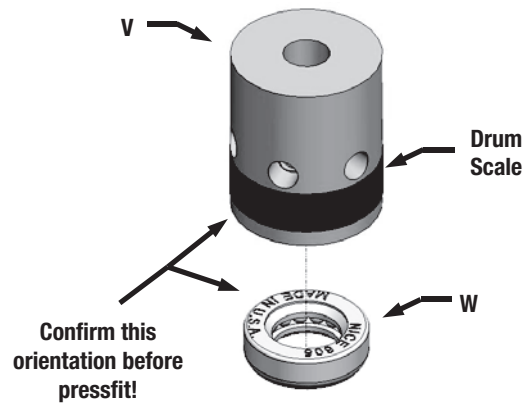

Figure 10
(Figures 10 & 11)
**Step 27:** Press fit the Thrust Bearing (W) into the Adjusting Drum (V). Make sure that the stamp-lettered surface of the Thrust Bearing (W) is fit with the bottom Drum (V) surface as shown in Figure 10.